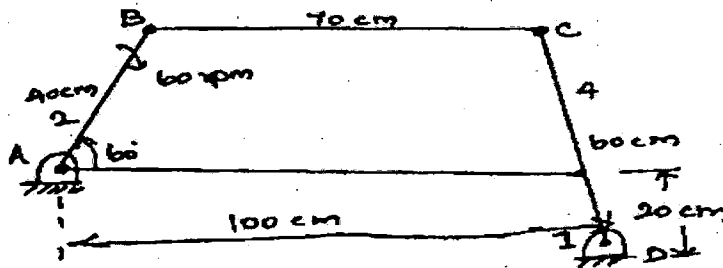

Fig. 3
12. (a) (i) The crank AB of four bar mechanism shown in figure. 3. Rotates at 60 rpm clockwise. Determine the relative angular velocities of the coupler to the crank and the lever to the coupler. Find also the rubbing velocities at the surface of pins 25 mm radius and the joints B and C. (8)